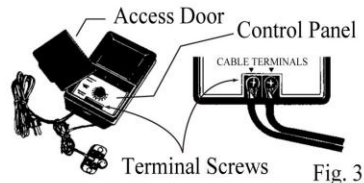
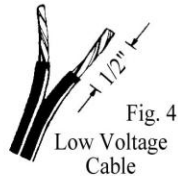

Fig. 3
Fig. 4
1. Remove access door from front of transformer by lifting where indicated on the door and once door releases, pull door towards you. this will expose the transformer control panel. (Fig. 3)
2. Strip 1/2" of insulation off of both wires at one end of the low voltage cable (Fig. 4) Loosen the two terminal screws of the transformer and wrap one of the stripped wires around each terminal screw in a clockwise direction. Tighten screws securely, making sure all stranded wires are captured under the screw heads. (Fig. 3)